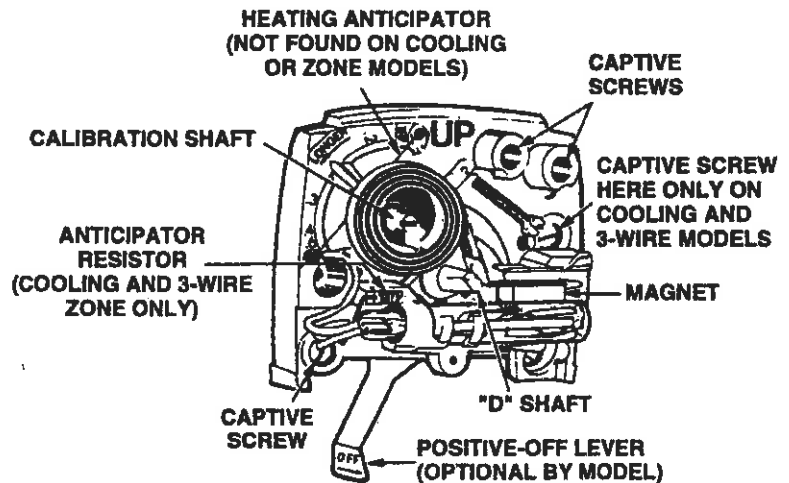

FIGURE 3 - BODY
- Remove subbase from the thermostat body by loosening captive screws. (See figure 3.)
- Mount thermostat body on subbase using three captive screws (figure 3.) Captive screw in lower left hand corner of body is self-threading into subbase. Use care not to overtighten.
- With a small crescent wrench, hold dial shaft (figure 3). Being careful that the shaft does not rotate from position it had when cover was removed.
- Keep hands and breath away from bimetal temperature sensing element (figure 3.) Turn calibration shaft in center of bimetal coil
For average conditions, set the adjustable anticipator (upper left of thermostat body, figure 3) to match the current rating of the primary heating control. Move anticipator approximately 1/2 division in direction indicated by arrows on the thermostat for longer "ON" cycles, or move lever in opposite direction for shorter "ON" cycles. Allow at least 24 hours to determine if setting provides satisfactory operation before making any further adjustments.